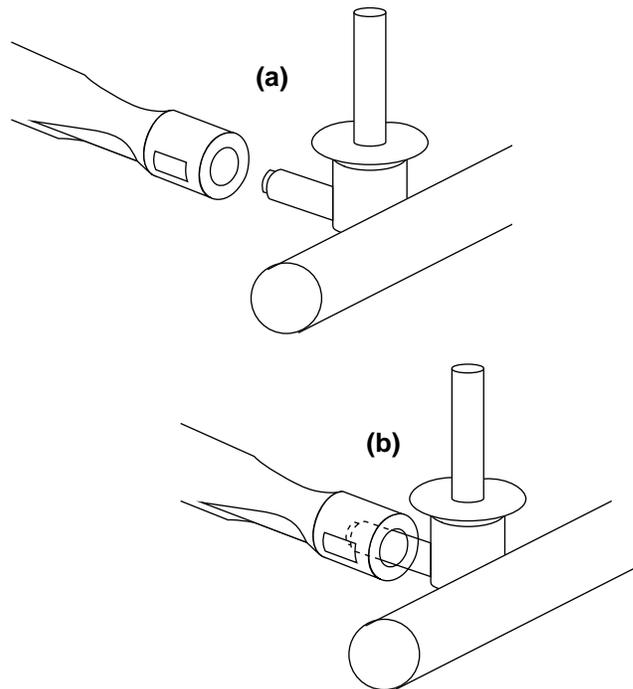

**Figure 12**
- h) Lift and twist the burner assembly slightly, to separate the crossover tube from the burners. Figure 12. Remove the burners from the cooking box.